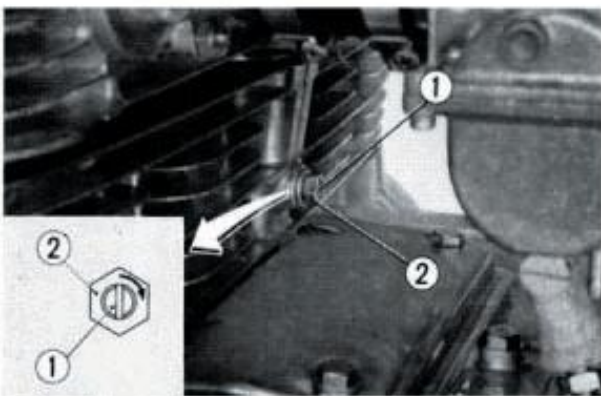

Fig. 58 ① Cam chain tension adjuster
13. Unscrew the cam chain adjuster lock nut (Fig. 58) and remove the chain tensioner from the cylinder. To facilitate removal, raise the cylinder about 20 mm/1 in., and remove the cam chain tensioner.